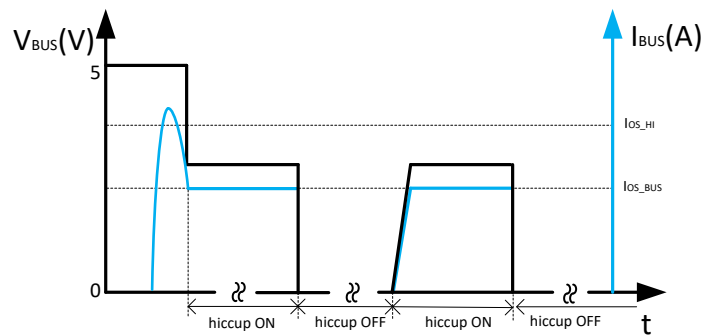

Figure 10-13. BUS Overcurrent Protection: Two-Level Current Limit
- The third condition is the load current increases just over the I_{OS_HI} setting. In this case, the load current does not trigger the fast turnoff. The USB power switch current limit threshold is set back to the primary current limit, I_{OS_BUS} , immediately. If the load still demands a current greater than I_{OS_BUS} , the USB output voltage decreases to $I_{OS_BUS} \times R_{LOAD}$ for a resistive load, which is shown in Figure 10-13. If the overcurrent limit condition lasts longer than 4.1 ms, the corresponding USB channel enters hiccup mode with 524 ms of off-time and 4.1 ms of on-time. Another USB channel still works normally.